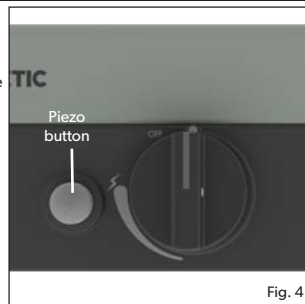

Fig. 4
- To light up the appliance using the piezo igniter, push and turn the control knob 90° in an anti-clockwise direction, then press the piezo button to ignite the gas (see Fig. 4). If the gas does not ignite on the first spark, turn the control knob back to its "OFF" position. Try again, by pushing and turning the control knob anti-clockwise and push the piezo button to ignite the gas. If the gas has not ignited in the first two to three seconds you should close the control valve by turning the control knob back to its "OFF" position.